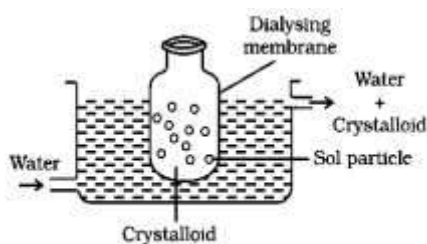

Fig. 5.9: Dialysis
12. **Dialysis:** It is a process of removing a dissolved substance from a colloidal solution by means of diffusion through a suitable membrane. It is a process of purification of sols containing electrolyte by keeping the sol in a bag made of parchment or cellophane and suspending the bag in pure water. Small molecules or ions can pass through the membrane, but the sol is retained. (Fig. 5.9 ,138). The apparatus used for this purpose is called dialyser.